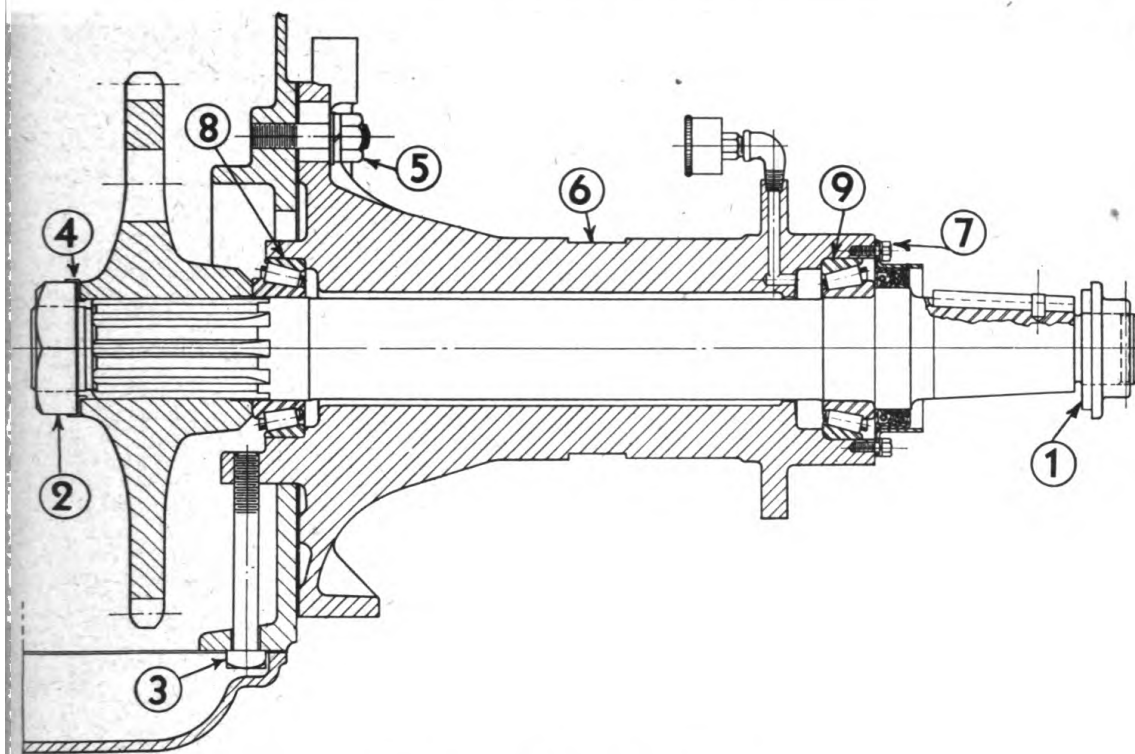

Fig. 35. Rear Axle Assembly
Before adjustments of rear axle bearings are made, a close inspection of Fig. 35 is worth while. Adjustment of the axle and wheel assembly and its relation to the adjusting nut (2) is clearly illustrated.
2. Remove nut 1, Fig. 35 which will allow removal of the drive wheel.
10. A bearing puller furnished by Owatonna Tool Company (consisting of the following parts) can be used to remove outer bearing 9, Fig. 35.
3. When replacing outer bearing 9, Fig. 35, use care to drive it in place evenly, drive only on the shoulder of the inner race of the bearing. A pipe or heavy tube the size of the inner race of the bearing, and large enough to go over the shaft makes a very suitable driver.